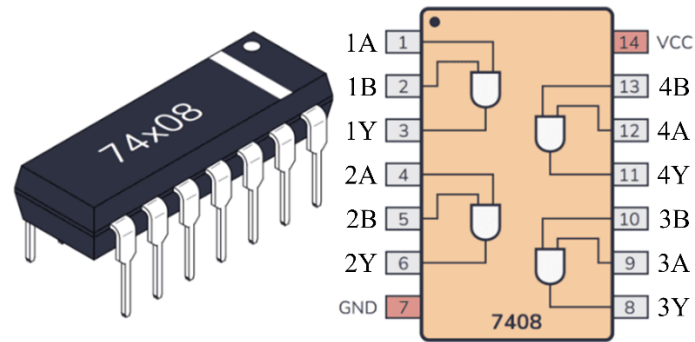

Figure 7. Pin arrangement of 74HC08 [1]
- (1) Read the datasheet of 74HC08 and understand the pin arrangement (ref. Figure 7).
- (2) Select an AND gate. The pins to be wired include VCC, GND, 1A, 1B, and 1Y.